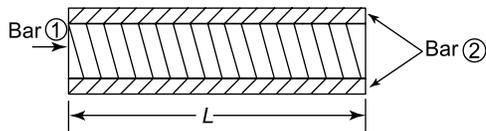

Figure 2.12 Compound bar
**Problem 19.** A solid bar of cross-sectional area  $A_1$ , Young's modulus  $E_1$  and coefficient of linear expansion  $\alpha_1$  is surrounded co-axially by a hollow tube of cross-sectional area  $A_2$ , Young's modulus  $E_2$  and coefficient of linear expansion  $\alpha_2$ , as shown in Figure 2.12. If the two bars are secured firmly to each other, so that no slipping takes place with temperature change, determine the thermal stresses due to a temperature rise  $T$ . Both bars have an initial length  $L$  and  $\alpha_1 > \alpha_2$ .